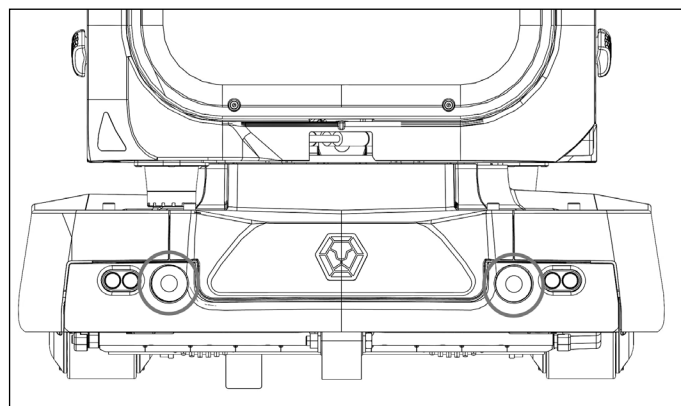
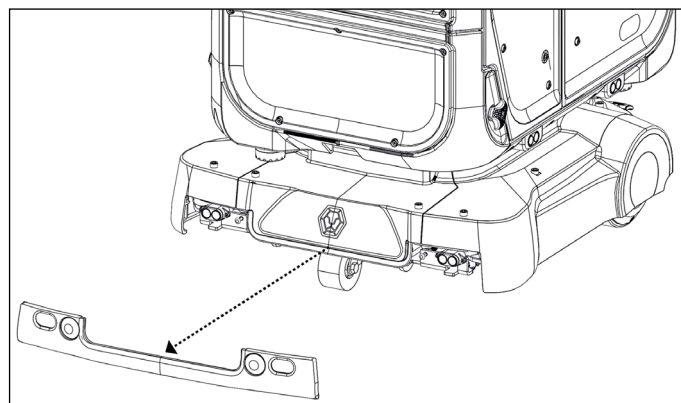

Figure 75
Figure 76
1. Press the 2 buttons fully to remove the lower front cover (**Fig. 75**), (**Fig. 76**).